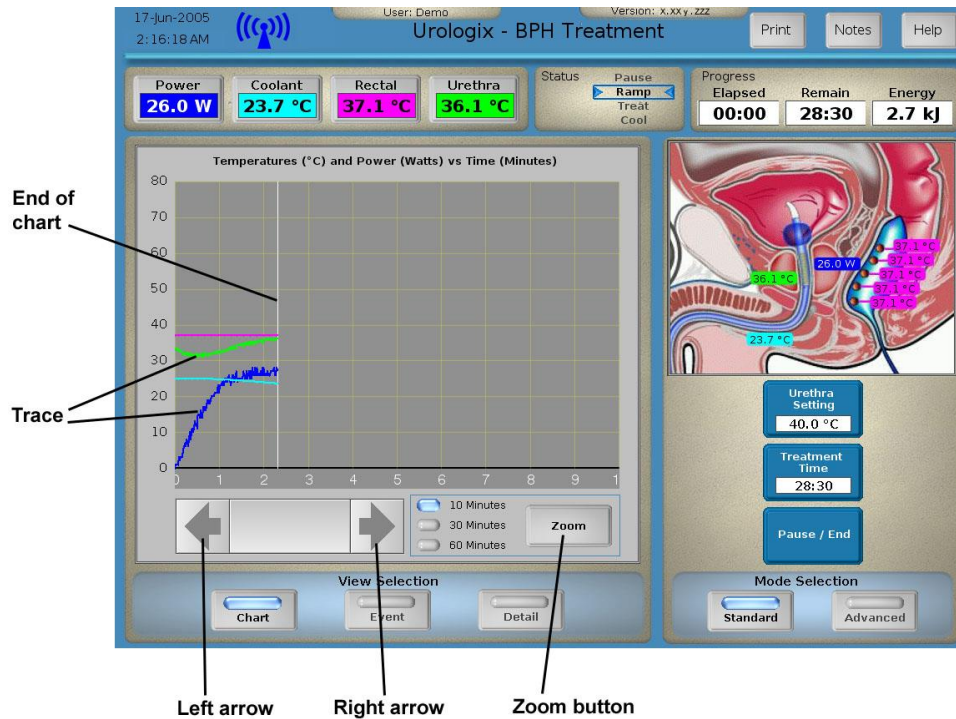

Figure 3-28. Chart pane
- a) Press the **Chart** button: View the microwave power, coolant temperature, rectal temperature, and urethra temperature for this treatment in a scrolling strip chart format (Figure 3-28). The colors of each trace on the chart correspond to the color of the item in the Status Panel: The white vertical line indicates the current values and the end of the chart. Press the left and right arrows to scroll left and right through the chart. The **Zoom** button allows you to view this information in a 10 minute view, a 30 minute view, or a 60 minute view.